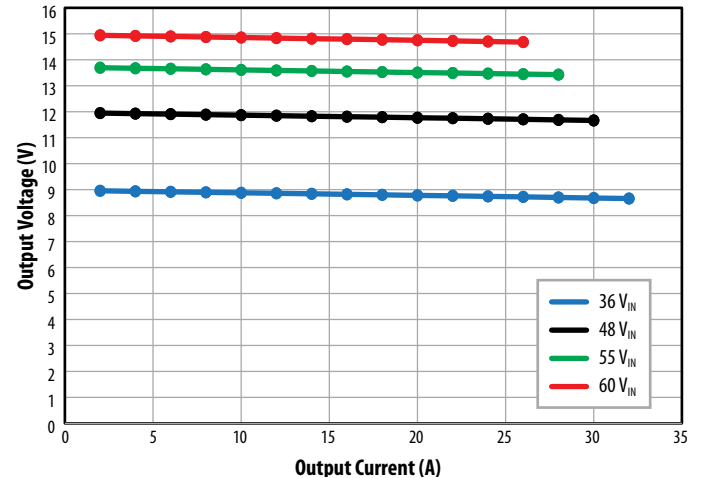

Figure 8: Typical output voltages vs. output current
* See figure 8 for typical output voltage vs. output current